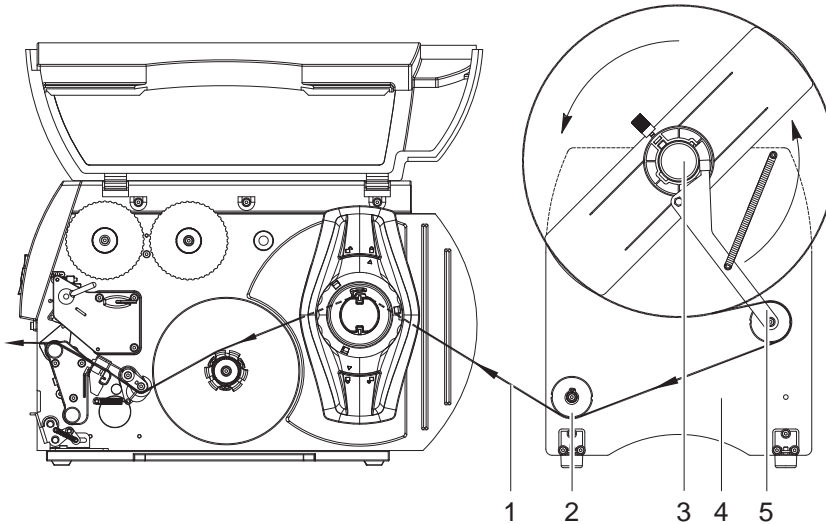
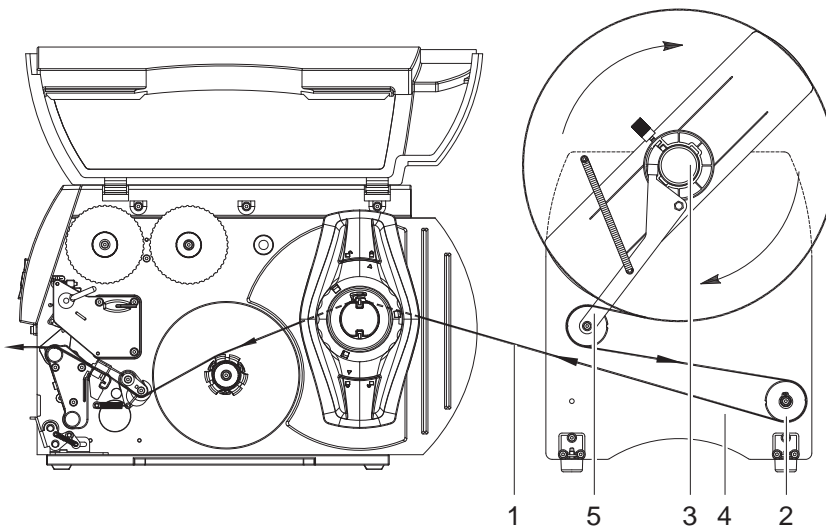

Figure 5 Unwinding from a roll with outside wound labels
Figure 6 Unwinding from a roll with inside wound labels
- ▶ Position the rack (4) of the External Rewinder as shown in Figure 5 or Figure 6.